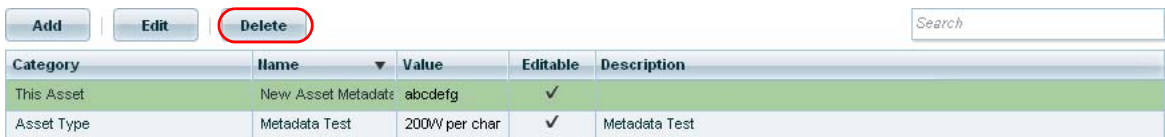

FIG. 256 Asset Management page - Delete button
1. In the *Asset Management* page - **Asset Metadata** tab, select on or more metadata entries in the Asset Metadata table (Ctrl + click to multi-select), and click the **Delete** button (FIG. 256).